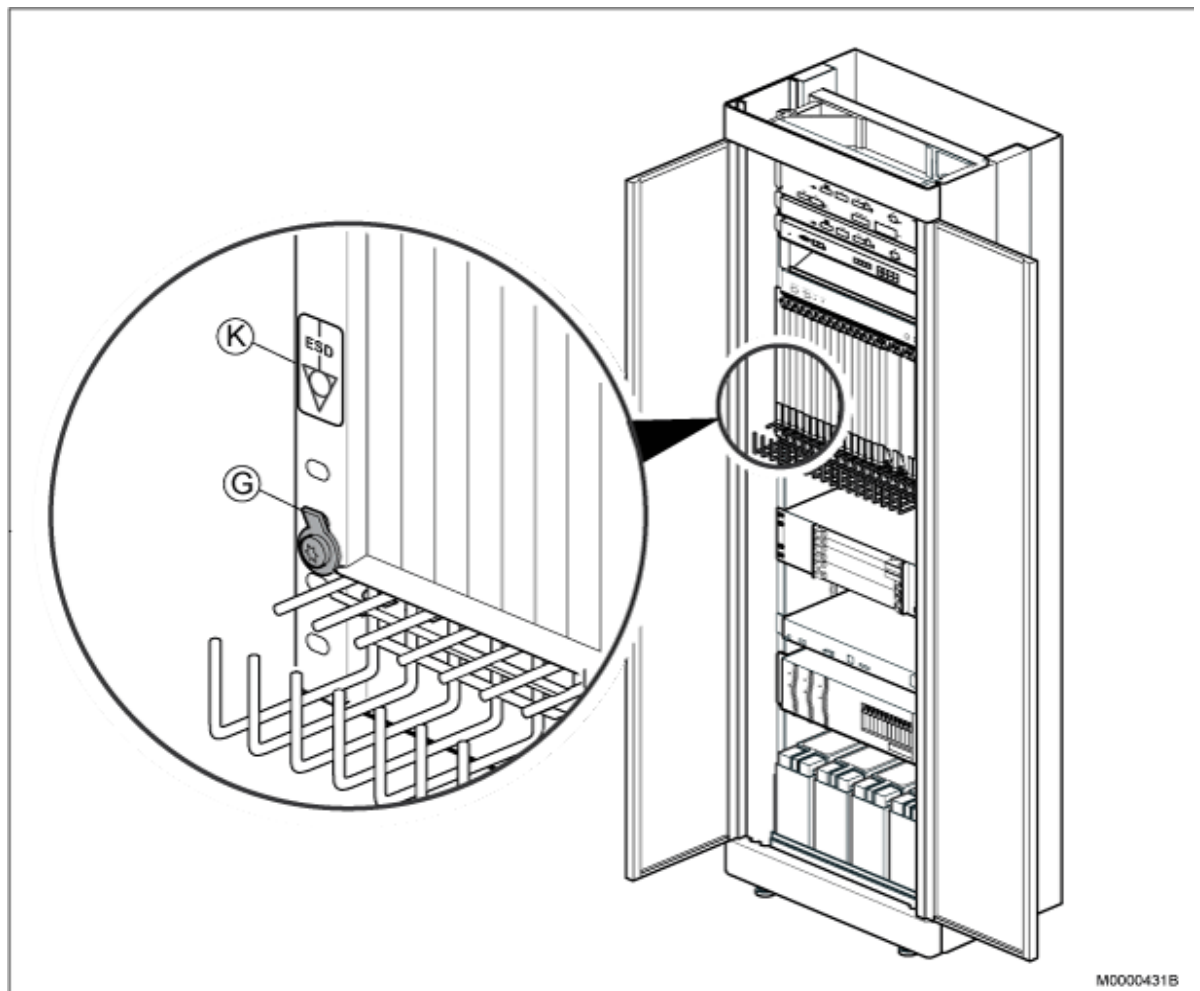

Figure 2: ESD-earth Point Cable Lug SNG 804 23 (G)
For other cabinets use ESD wrist strap and connect to the a cable lug SNG 804 23 or similar point. see Figure 2:ESD-earth Point Cable Lug SNG 804 23 (G) on page 5.